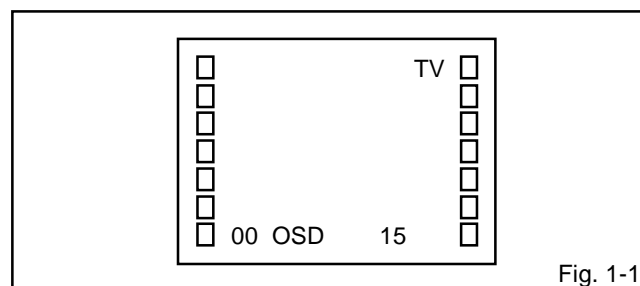

Fig. 1-1
Press the VOL. DOWN button on the set and the Channel button (9) on the remote control for more than 1 second to appear the adjustment mode on the screen as shown in Fig. 1-1.
3. Activate the adjustment mode display of Fig. 1-1 and press the channel button (02) on the remote control to select "RF. AGC".
3. Activate the adjustment mode display of Fig. 1-1 and press the channel button (01) on the remote control to select "CUT OFF".
4. Activate the adjustment mode display of Fig. 1-1 and press the channel button (13) on the remote control to select "R. BIAS".